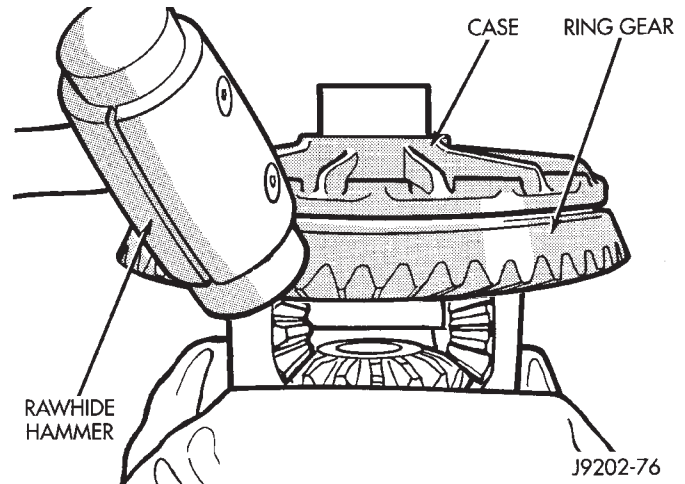

Fig. 32 Ring Gear Removal
- (1) Remove differential from axle housing.
(2) Place differential case in a suitable vise with soft metal jaw protectors (Fig. 32).
(3) Remove bolts holding ring gear to differential case.
(4) Using a soft hammer, drive ring gear from differential case (Fig. 32).